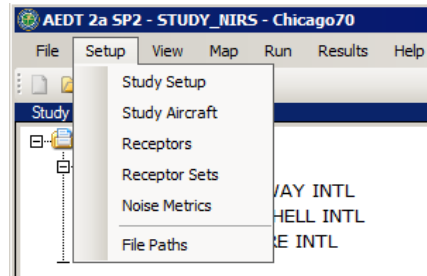

Figure 5-4 File Paths from Setup Menu
1. In the desired study, from the menu bar select *Setup, File Paths* (Figure 5-4).